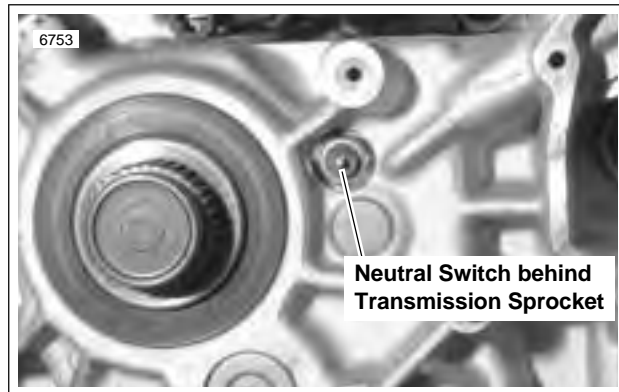

Figure 4-27. Neutral Switch
- By placing the motorcycle in neutral and grounding the relay through the neutral switch. See Figure 4-27.